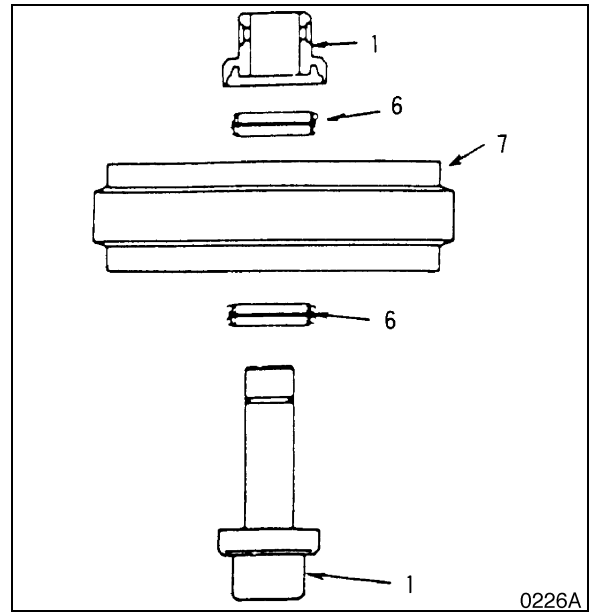

Figure 23
4. Detach group seal (6, Figure 23) from idler (7), and bearing (1).